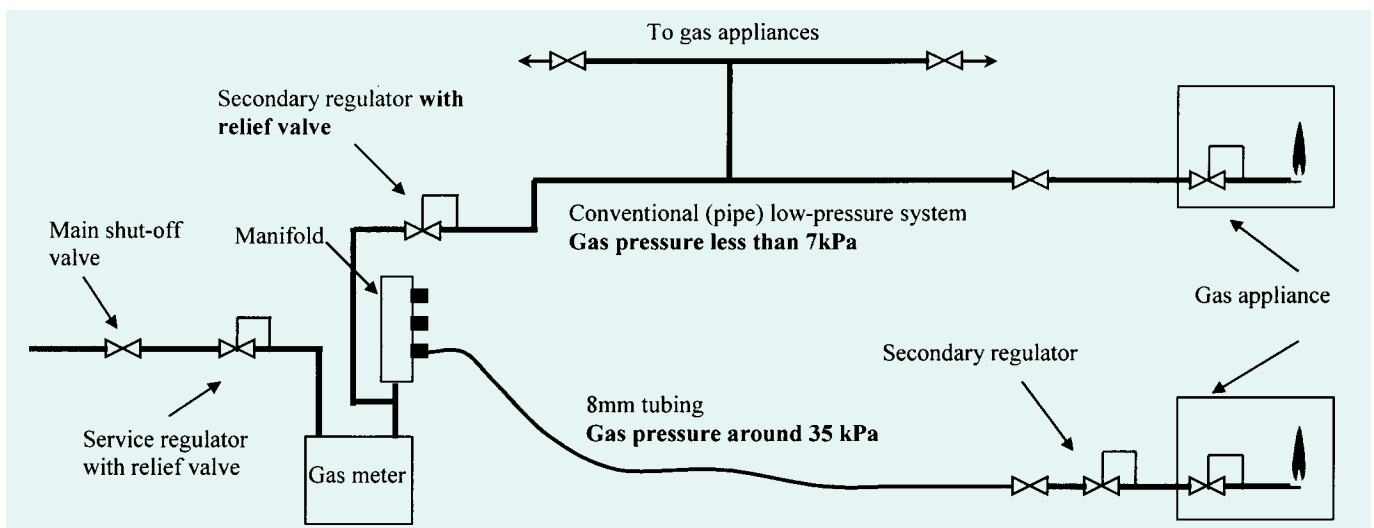

Fig 3: Acceptable mixed IPI/LP installation under IPI interim specifications (1987)
A typical mixed IPI/LP installation is shown in Figure 3.
- If only part of the installation is to be converted to low-pressure operation, install a suitable regulator with overpressure protection to reduce the pressure at the manifold as shown in figure 3.